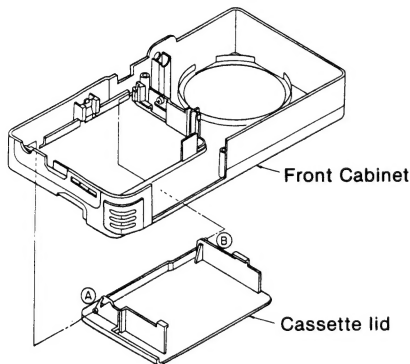

Fig. 3
1. First insert lid hinge A and then hinge B in the front cabinet as shown in Fig. 3.